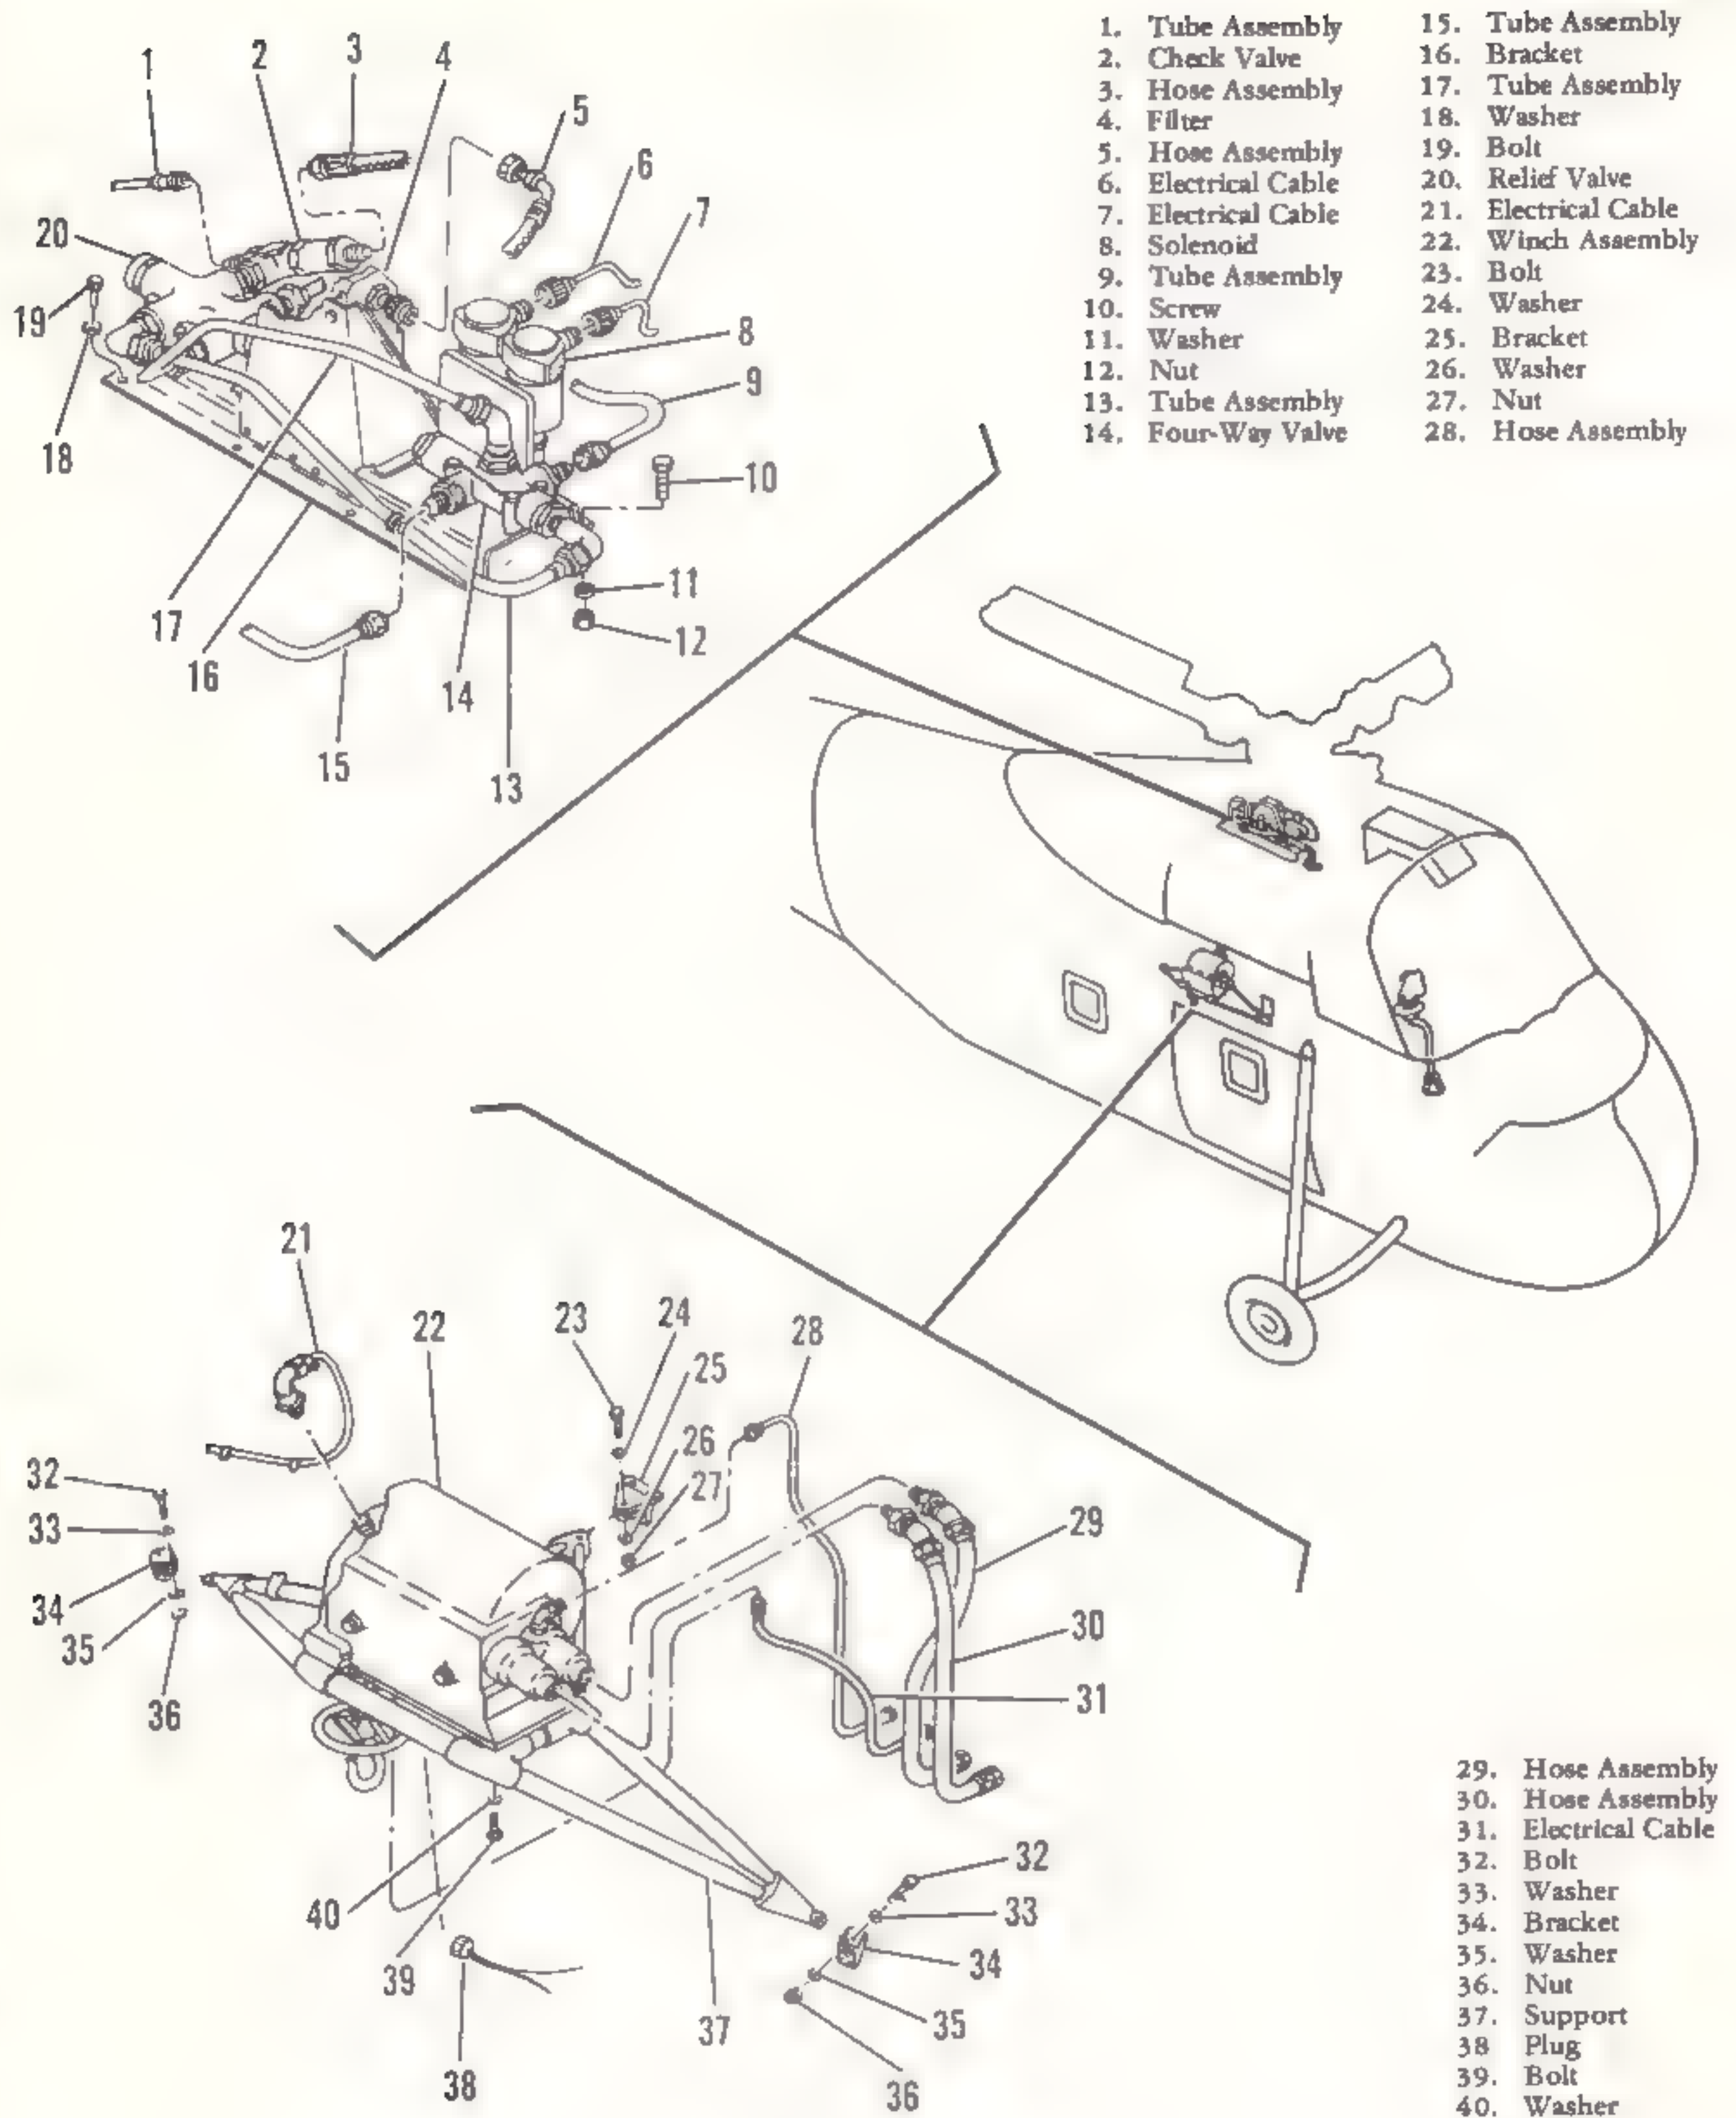
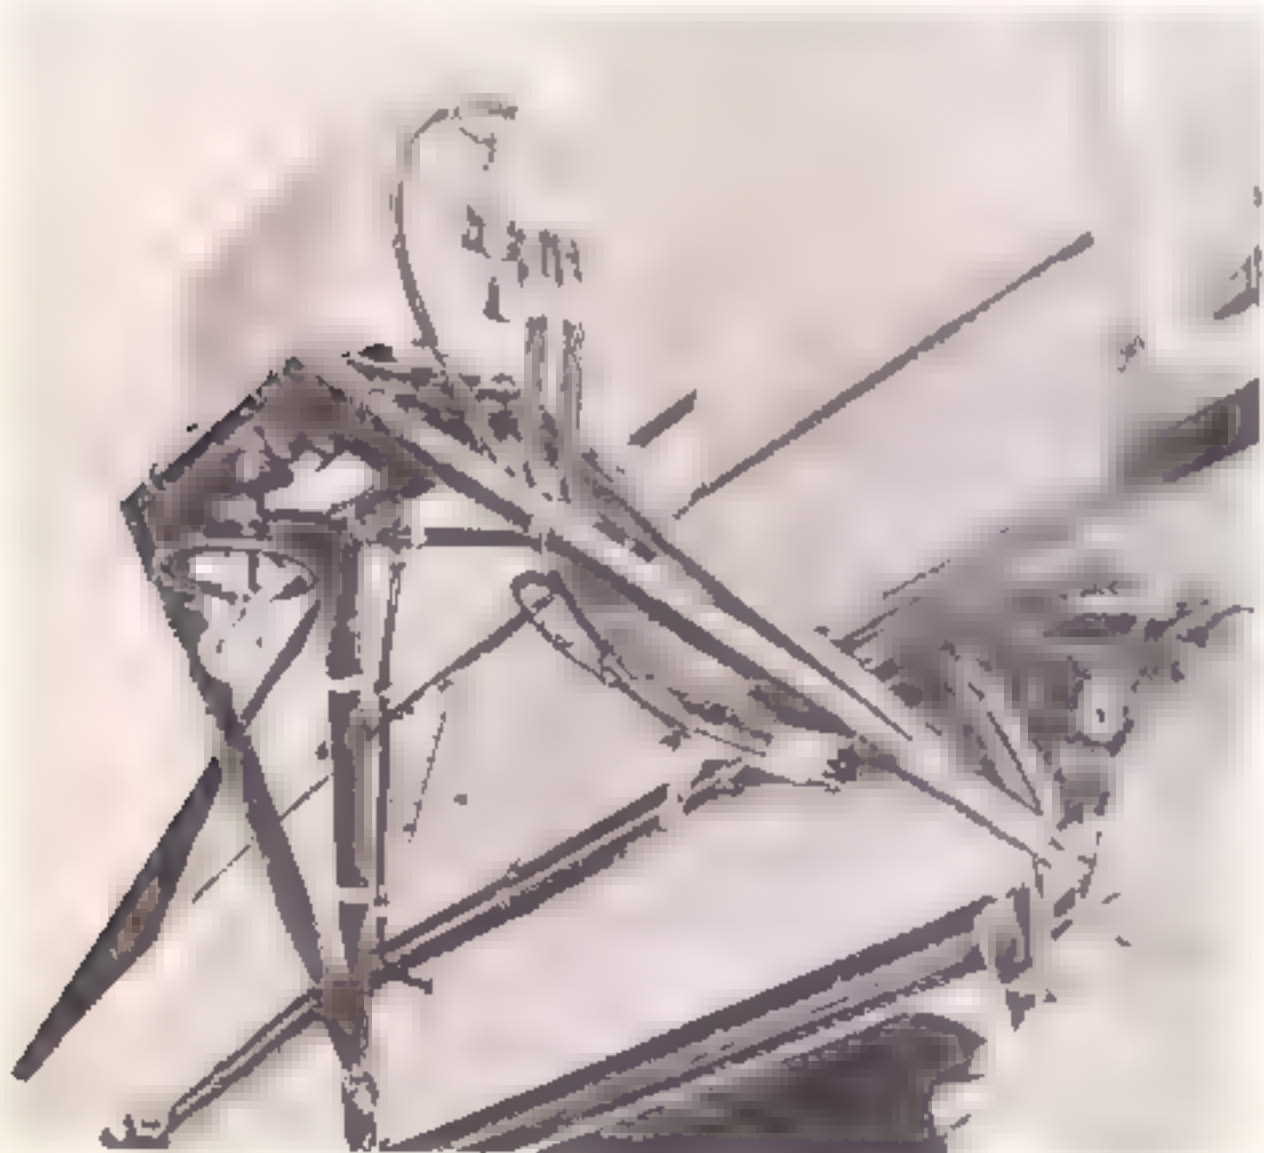

Figure 4-18. Rescue hoist system
Figure 4-19. Winch assembly installed
4-61. Rescue Hoist System. The rescue hoist system (figure 4-18) consists of a winch assembly and rescue hoist hydraulic system. The winch assembly consists of a winch, hydraulic motor, guillotine, circuit tester, support, and necessary control switches. For information covering the rescue hoist hydraulic system,
4-62. *Winch Assembly.* The winch assembly (22, figure 4-18) of the rescue hoist system is mounted on three brackets over the cargo door on the right side of the helicopter. (See figure 4-19.) The winch assembly has a rated load of 600 pounds. The winch is composed of a cable drum gear driven by the hydraulic motor, a load-holding brake, a level-wind mechanism for the cable, a rubber-covered roller to prevent snarling of the cable when unreeling without a load, limit switches to cut off power at both extremes of travel, and a rubber bumper at the cable end fitting. An electrically operated, cartridge-type guillotine is installed in the winch assembly. The guillotine is controlled by spring-loaded switches marked EMER CABLE-CUT-OFF, one located adjacent to the HOIST-CREW-OFF-PILOT switch on the overhead switch panel and the other located adjacent to the cabin HOIST switch. The pilot's EMER CABLE CUT-OFF switch is always operative. The crew's EMER CUT-OFF switch is operative only when the master switch is in the CREW position. All hoist switches are inoperative while either the pilot's or the crew's emergency cable cutoff is in operation. The hydraulic motor, mounted on the stationary housing of the winch assembly, drives the drum through two stages of planetary gear reductions. The proper setting of the relief valve assures continuous, intermittent, continuous reversing, or stalled operation of the motor without damage to the motor. The direc-
(9) Place master hoist switch on overhead control panel in OFF position.
(10) Place battery switch on main switch panel in OFF position.
(11) Circuit is ready for operation.
b. Removal. (1) Disconnect electrical cables (21 and 31, figure 4-18) from winch assembly (22) and remove clamps securing electrical cables on support (37).
(2) Disconnect hose assemblies (28, 29, and 30) from hydraulic motor of winch assembly (22). Cap ends of hose assemblies and open ports of winch assembly.
(3) Disconnect plug (38) from guillotine at bottom of winch assembly (22). Remove clamps securing electrical wires of plug to support (37).
(4) Remove bolts (39) and washers (40) securing winch assembly (22) on support (37). Remove winch assembly from support.
(5) Remove bolts (32), washers (33 and 35), and nuts (36) securing support (37) on brackets (34).
(6) Remove bolt (23), washers (24 and 26), and nut (27) securing support (37) to bracket (25). Remove support from brackets.
c. Cleaning. Clean winch assembly and support with a clean, lint-free cloth moistened with solvent (item 4, table 1-8).
d. Inspection. (1) Inspect winch assembly for cracks, dents, bends, and corrosion.
(2) Inspect support and brackets for cracks, dents, bends, and elongated bolt holes.
e. Installation. (1) Position support (37, figure 4-18) on bracket (25) and secure with bolt (23), washers (24 and 26), and nut (27).
(2) Position support (37) on brackets (34) and secure with bolts (32), washers (33 and 35), and nuts (36).
(3) Position winch assembly (22) on support (37) and secure with bolts (39) and washers (40).